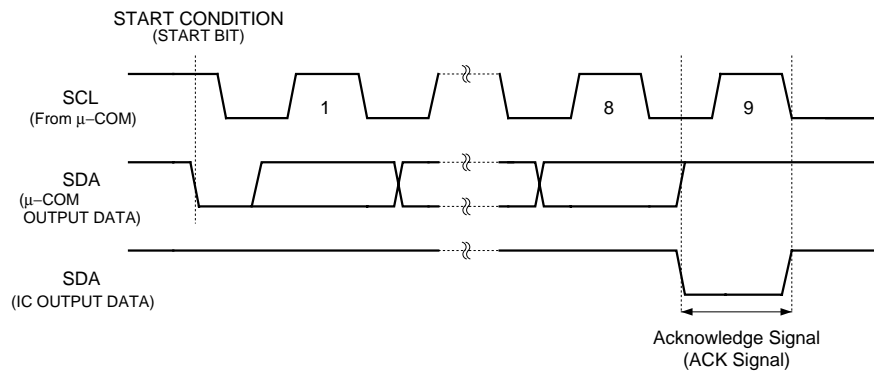

Fig.11 ACKNOWLEDGE RESPONSE FROM RECEIVER
- (See Fig.11 ACKNOWLEDGE RESPONSE FROM RECEIVER)